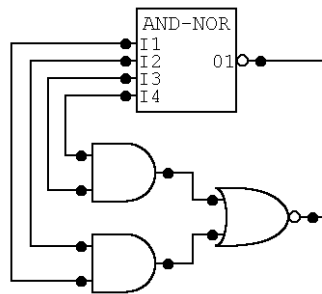

Figure 17.9. The functional circuitry is wired to the symbol to create a functional macro device.
- 5 Select the **Wire Tool** from the Toolbar and connect wires from the macro symbol's pins to the other points within the circuit. Figure 17.9 shows an example of a completely wired macro device.